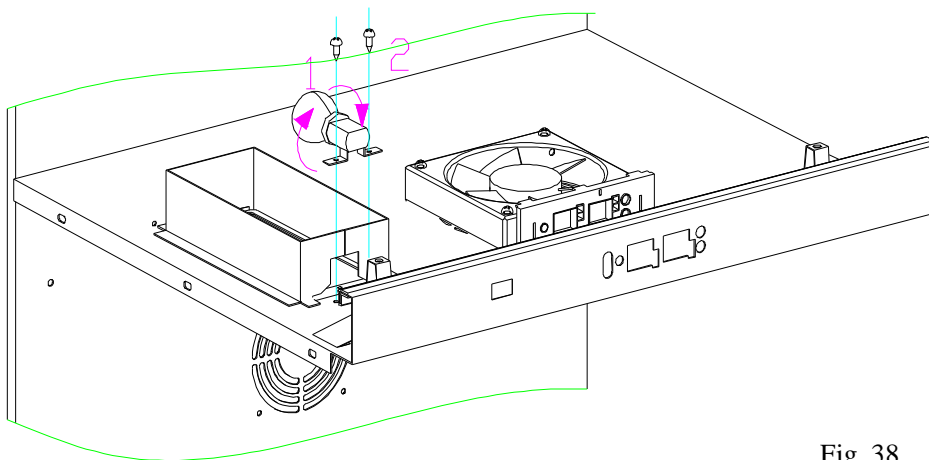

Fig. 38
c. Remove the shelves, take the up cover of the middle air duct board, remove the screws(1,2) fixing the lamp hold, remove the bulb according to the direction arrowhead show, replace the bulb. (Fig. 38)